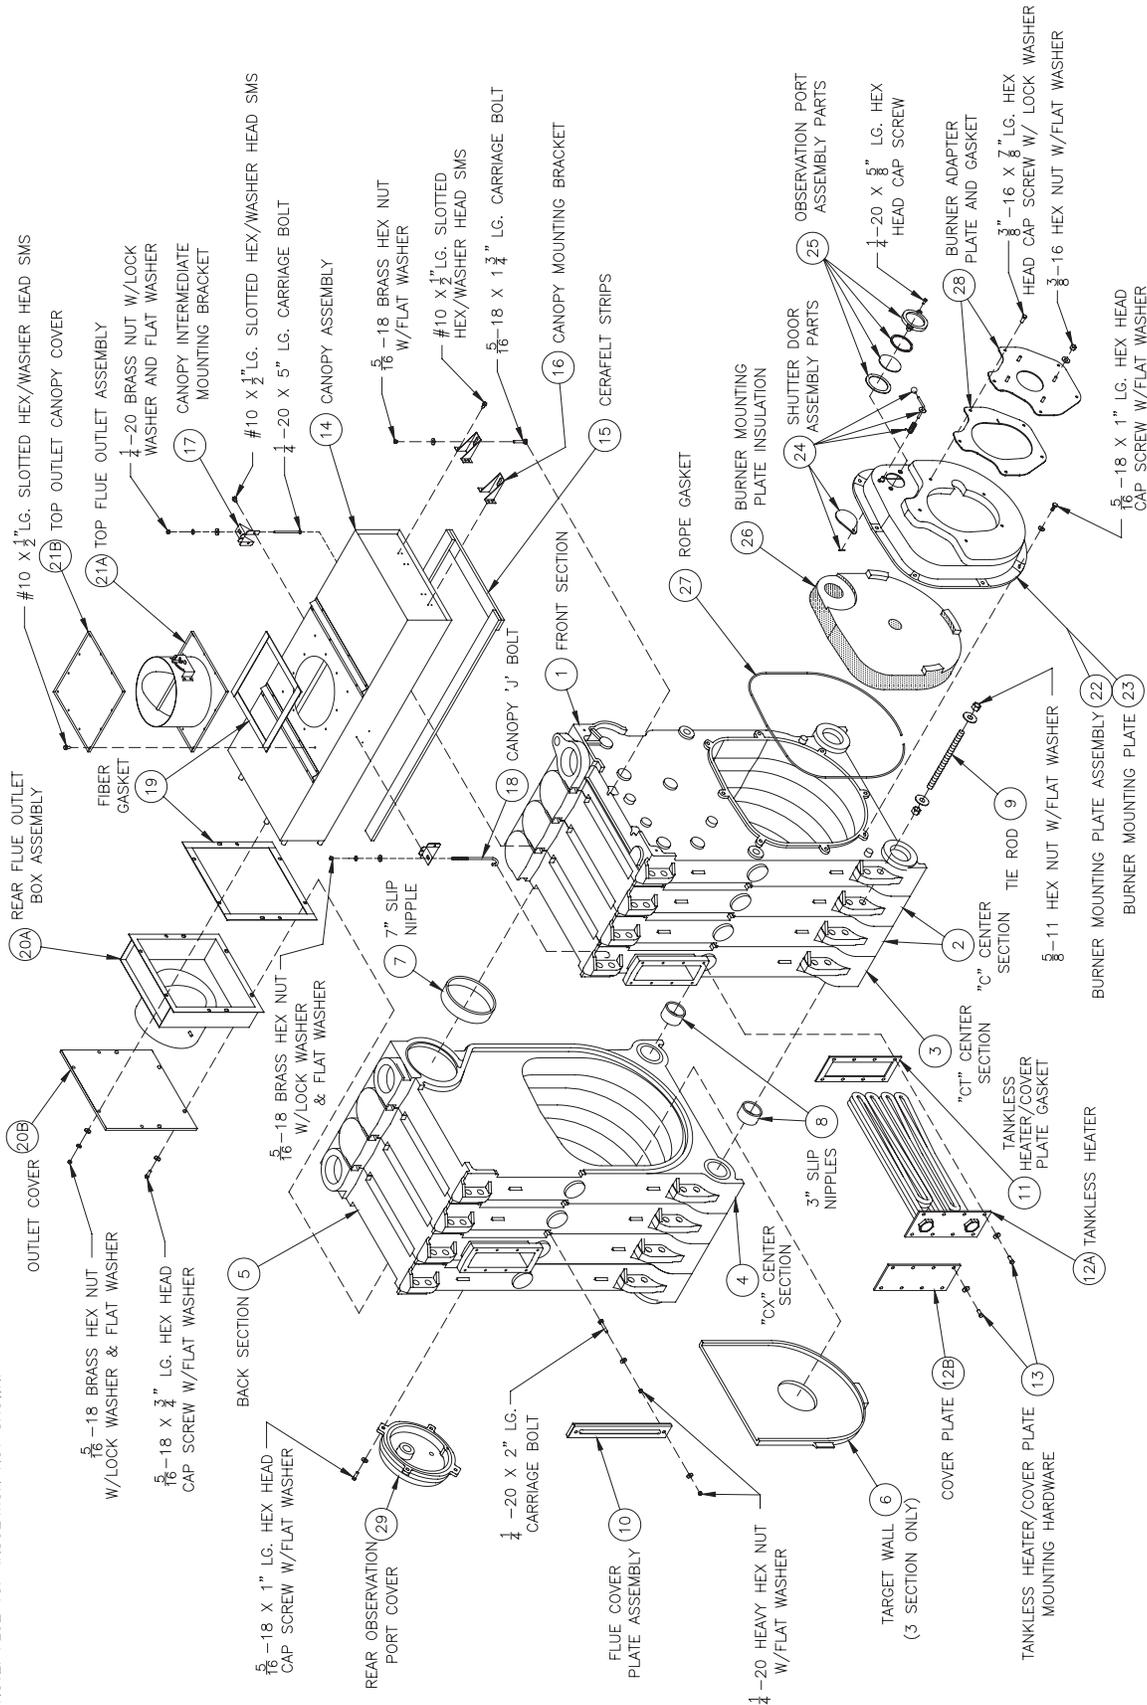

Figure 16: Bare Boiler Assembly
Refer to Figure 16.
11. RTC Bracket (if used)- install bracket in top right corner of front panel with four (4) #8 x 3/4" self tapping screws.
F. BURNER MOUNTING PLATE - Refer to Figures 16 and 23.
3. Engage bottom slot on burner mounting plate with matching bolt in bottom tapping of front section. Align mounting holes and fasten the mounting plate to the boiler sections with seven (7) remaining 5/16" cap screws and washers. Fully tighten all bolts.